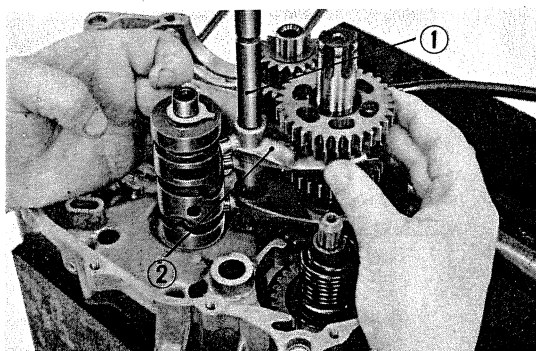

Fig. 96 ① Shift fork guide shaft ② L. shift fork
- 9) When installing the left crankcase, make sure that the kick spindle shaft is perpendicular to the hole in the left crankcase. (Fig. 96)